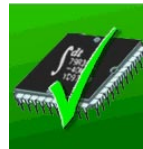

Figure 3-105
4. Single click on the Coprocessor High test icon. (Figure 3-105)